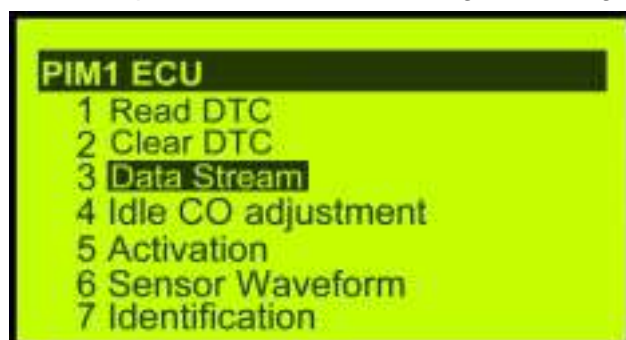
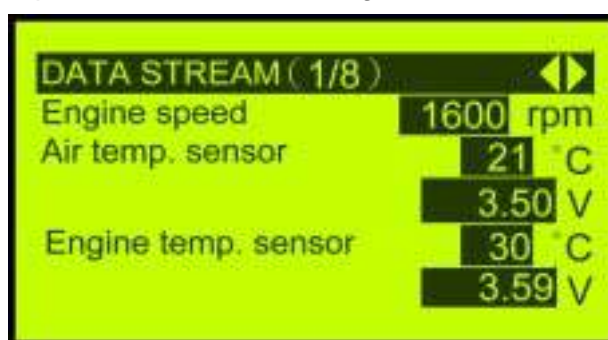

Fig 18
Fig 19
6. With the ▲▼ cursor to select “3. Data analysis” (LCD background changed into black), (as fig 18), press “ENTER” key to enter into EFI data analysis. There are 8 instantly dynamic data values shown on the menu. (1/7~7/7) (as fig 19, 20, 21, 22, 23, 24, 25, 26) Select desired menu with ◀▶ cursor.
As the fig 19 (1/8) shown, the menu provides with 3 set dynamic values of engine rpm, intake temperature & sensor's voltage, and engine temperature & sensor's voltage.